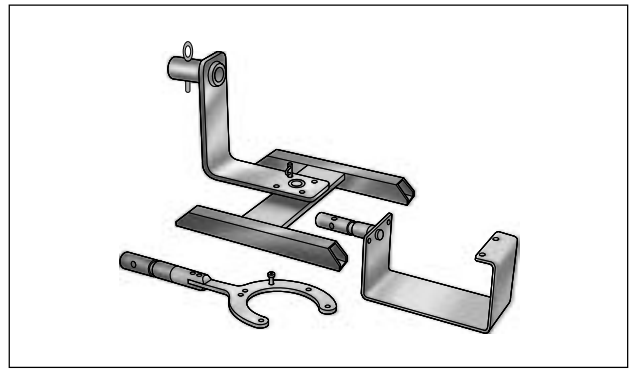

Figure 3-13. Engine/Transmission Bench Stand (Part No. HD-42310)
38. Using the TWIN CAM 88 CRADLE (HD-42310-2), install engine in BENCH STAND (HD-42310) or ROLLING STAND (HD-43646A). See Figure 3-13.